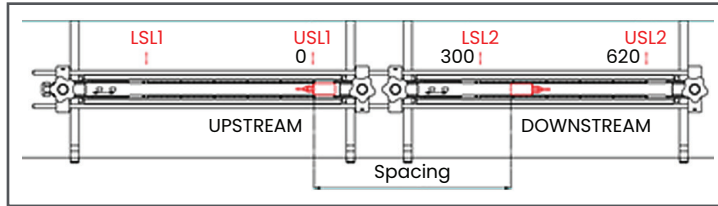
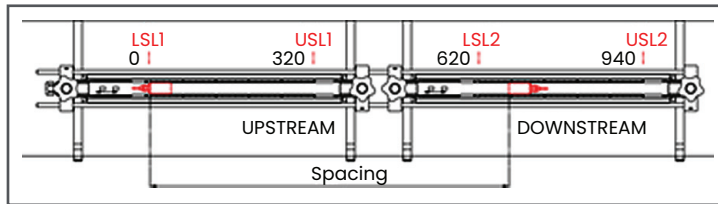

Figure 16: Transducer Spacing of 320 to 620 mm with Two Fixtures
Figure 17: Transducer Spacing of 620 to 940 mm with Two Fixtures
5. See Figure 16 and Figure 17 below for examples of a completed installation in the following situations: